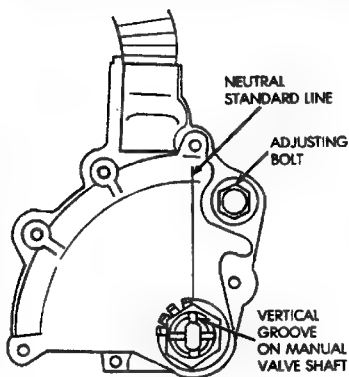

Fig. 5 Neutral Switch Adjustment
- (1) Disconnect shift linkage rod from shift lever on left side of transmission.
- (2) Rotate manual shift lever all the way rearward. Then rotate lever forward two detent positions to Neutral.
- (3) Install switch on manual valve shaft and install switch adjusting bolt finger tight. Do not tighten bolt at this time.
- (4) Install tabbed washer on manual valve shaft and install switch attaching nut. Tighten nut to 6.9 N·m (61 in-lbs) torque but do not bend washer lock tabs over nut at this time.
- (5) Verify that transmission is in Neutral.
- (6) Rotate switch to align neutral standard line with vertical groove on manual valve shaft (Fig. 5).
- (7) Align switch standard line with groove or flat on manual valve shaft.
- (8) Tighten switch adjusting bolt to 13 N·m (9 ft-lbs) torque.
- (9) Bend at least two washer lock tabs over switch attaching nut to secure it.
- (10) Connect shift linkage rod to shift lever on left side of case.
- (11) Connect switch wires to harness and lower vehicle.
- (12) Check switch operation. Engine should start in Park and Neutral only.